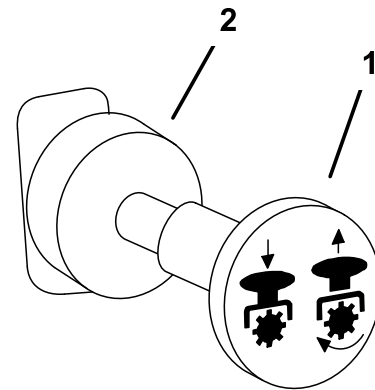

Figure 15
4. Pull out on the power takeoff (PTO) switch to engage it (Figure 15).
To disengage, push the PTO switch to the OFF position (Figure 15).